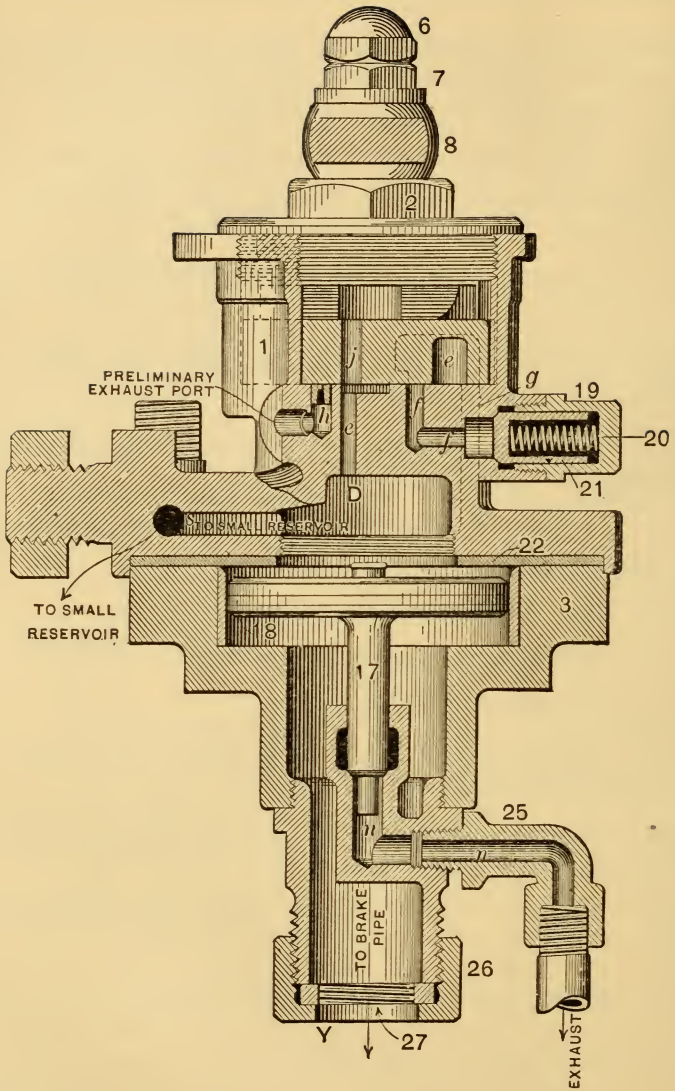
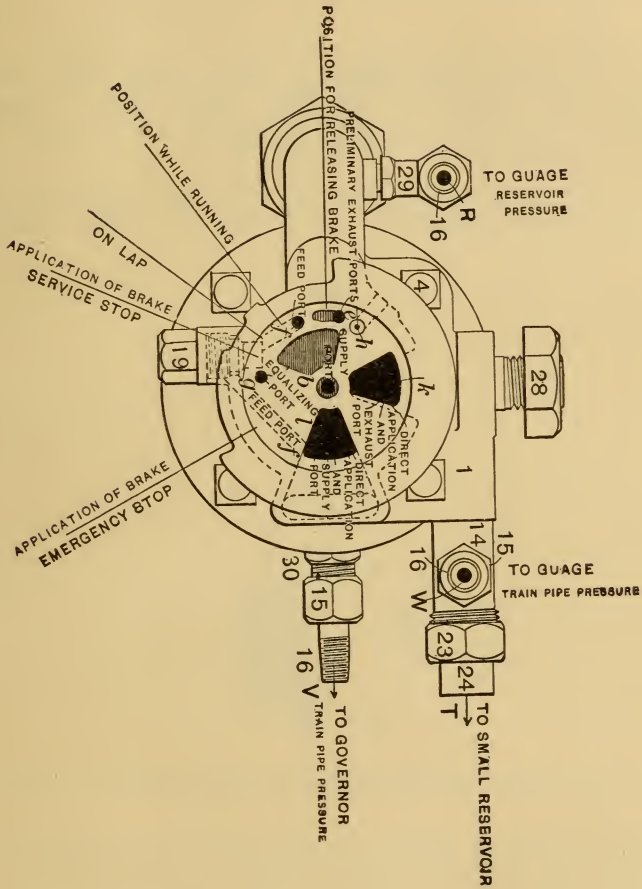
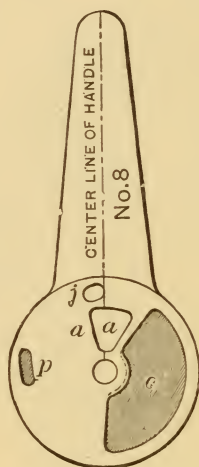

FIG. 32.—D 8 BRAKE VALVE.
FIG. 33.—D 8 BRAKE VALVE.
FIG. 34.—SHOWING BOTTOM SIDE OF ROTARY OF D 8 VALVE.
Port *g* in the rotary seat (Fig. 33) leads to chamber *D* and is exposed to cavity *c* of the rotary in this position of the valve so that air passing from the main reservoir into the train line through cavity *c* is also free to go to the little drum through port *g*.
In this position Fig. 32 shows port *j* open to port *e*, and main reservoir pressure passes directly to the little drum through these ports.
A. In this position port *j* (Fig. 32) is moved around directly over port *f* in the rotary seat. The main reservoir pressure coming from the top of the rotary feeds through ports *j* and *f* and strikes the valve 21, which is held to its seat by the excess pressure spring 20. This spring has a tension of twenty pounds so that when the main reservoir pressure is twenty pounds greater than that back of the valve, or train-line pressure, the valve is forced from its seat and the air coming from the main reservoir passes through port *f* (Fig. 33) into port *l* and into the train line at *Y*. At the same time it feeds into the train line through port *l*, it feeds up under the rotary into cavity *c* which, as in full release, is exposed to port *l*. Port *g* in the rotary seat (Fig. 33) is still
A. A lug on the inside of the rotary rim covers port *g* (Fig. 33) in this position.
A. In this position, the slot *p* on the under side of the rotary (Fig. 34) connects port *e*, which leads through the rotary seat to the little drum, with port *h* in the rotary seat (Figs. 32 and 33) leading to the atmosphere.
Q. What is the object of the small slot in the rotary seat (Fig. 33) leading from port e, which leads to cavity D, towards port f?
Q. What would happen if the air from the main reservoir reached the under side of the piston 17 (Fig. 32) first?
A. The rotary leaks or there is dirt on the excess pressure valve 21 (Fig. 32).
A. The excess pressure spring 20 (Fig. 32) is weak.
A. The engineer watches the gauge and partially closes the pump throttle, or, on some roads, two governors are used, one connected to the main reservoir pressure and the other, as in the cut (Fig. 33), with the train line.